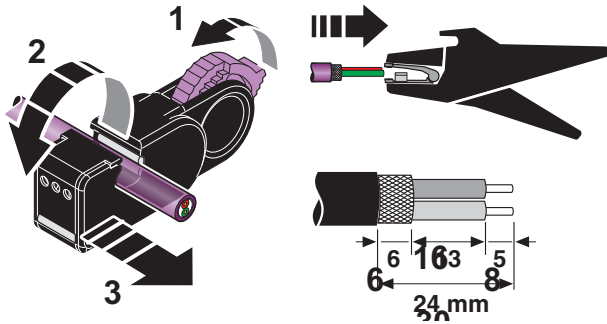

Figure 11 Stripping
- Strip the cable according to Figure 11.